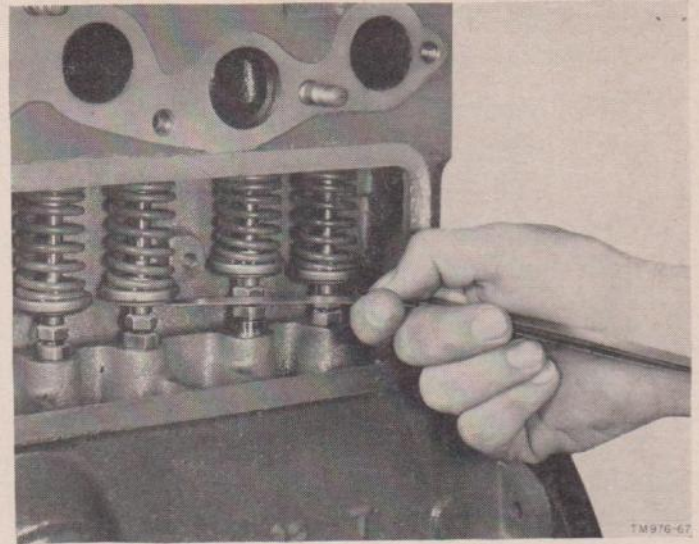

Figure 67. Checking valve tappet clearance.
c. *Valve Tappets.* Check the valve tappet clearance with a feeler gage as shown in figure 67. Both the intake and exhaust tappet clearance must be .016 inch with the engine cold.